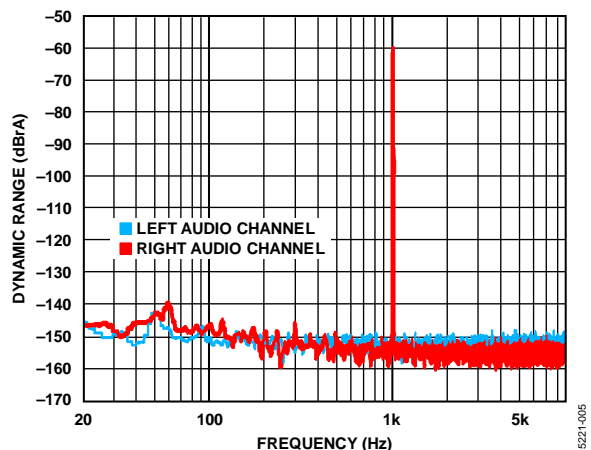

Figure 5. Dynamic Range vs. Frequency
As discussed in the Calculation Guidance and Design Parameters section, for small signal, noise (N) is the dominant factor that affects THD + N results. DNR is tested with almost no THD, only the noise condition. There is almost no THD in Figure 5; therefore, N is the main factor that affects DNR results. A lower noise floor results in improved DNR.